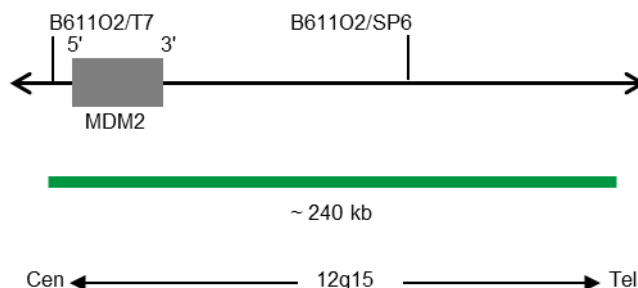

Fig. 1: SPEC MDM2 Probe map (not to scale)
- Digoxigenin-labeled polynucleotides (~1.1 ng/μl), which target sequences mapping in 12q15* (chr12:69,190,708-69,430,185) harboring the MDM2 gene region (see Fig. 1).